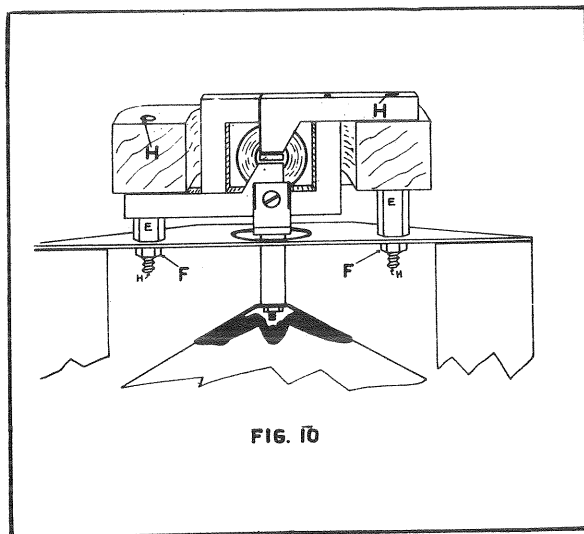

FIG. 10
3. Remove the nuts F, Figure 10, from the upper supporting screws "H". A small open end wrench will be necessary for this operation as it is necessary to remove these nuts by inserting the wrench between the cone and the frame.
6. Remove the two screws "H", Figure 10, holding the motor in place. These screws thread into the spacer bushings "E".
7. Remove the keeper and place the motor in position on the horseshoe magnet. Before seating the screws "H", Figure 10, that hold the motor to the magnet push both sides of the motor down toward the curved part of the magnet. The motor should be horizontal with respect to the sides of the magnet.
10. Seat the screw "G" holding the lower strap "N", Figure 9, and then fasten the upper portion of the unit to the frame by means of the nuts "FF", Figure 10, on the upper screws "HH". When tightening these last two mentioned nuts be careful not to disturb the central position of the unit as established in 9.